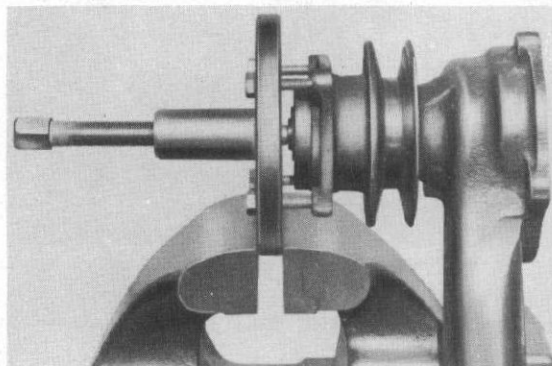

Fig. 3
- Step 3—Press the fan pulley off the shaft using a suitable puller as shown in Figure 3.